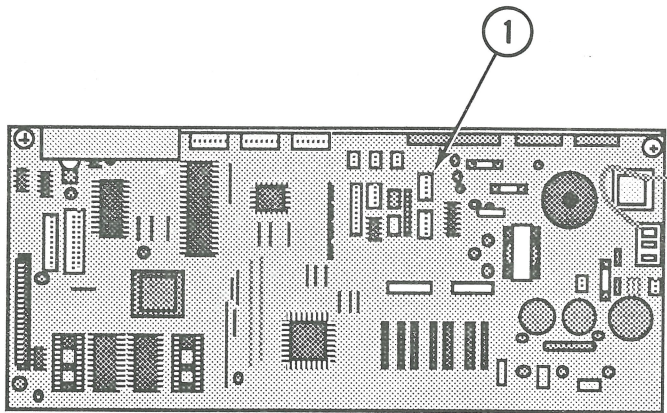

FIGURE 3
- 2. Disconnect the carrier motor cable from main board connector CN5 (Figure 3, #1).